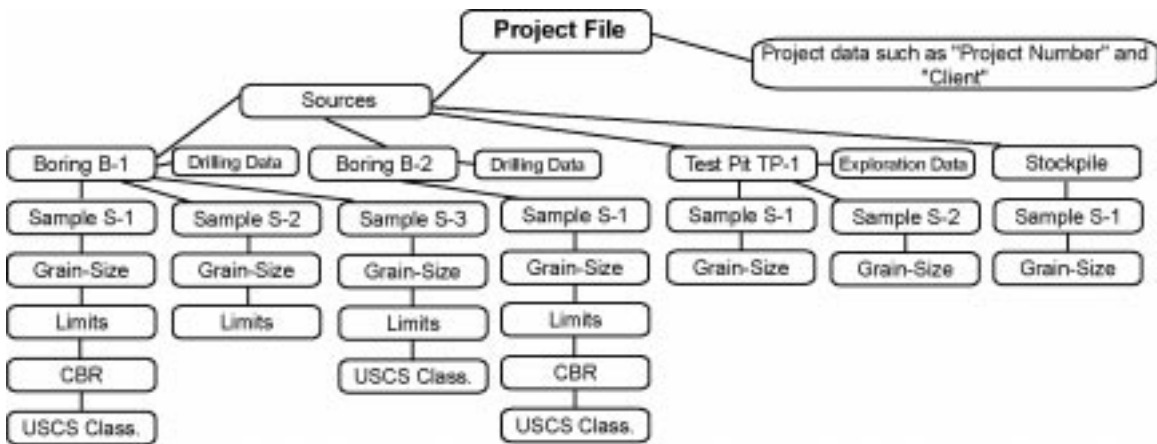

Figure 1.7.1 -- Typical Project File
- ⇒ Figure 1.7.1 includes four sources: "Boring B-1", "Boring B-2", "Test Pit TP-1" and "Stockpile".